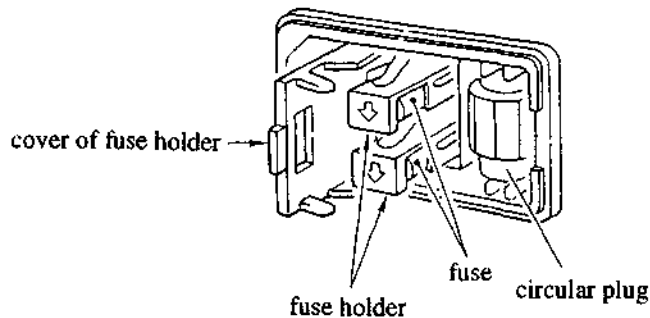

Fig. 3.5.2 Interior of fuse holder
- (4) Pull out the fuse holder, as shown in Figure 3.5.2.